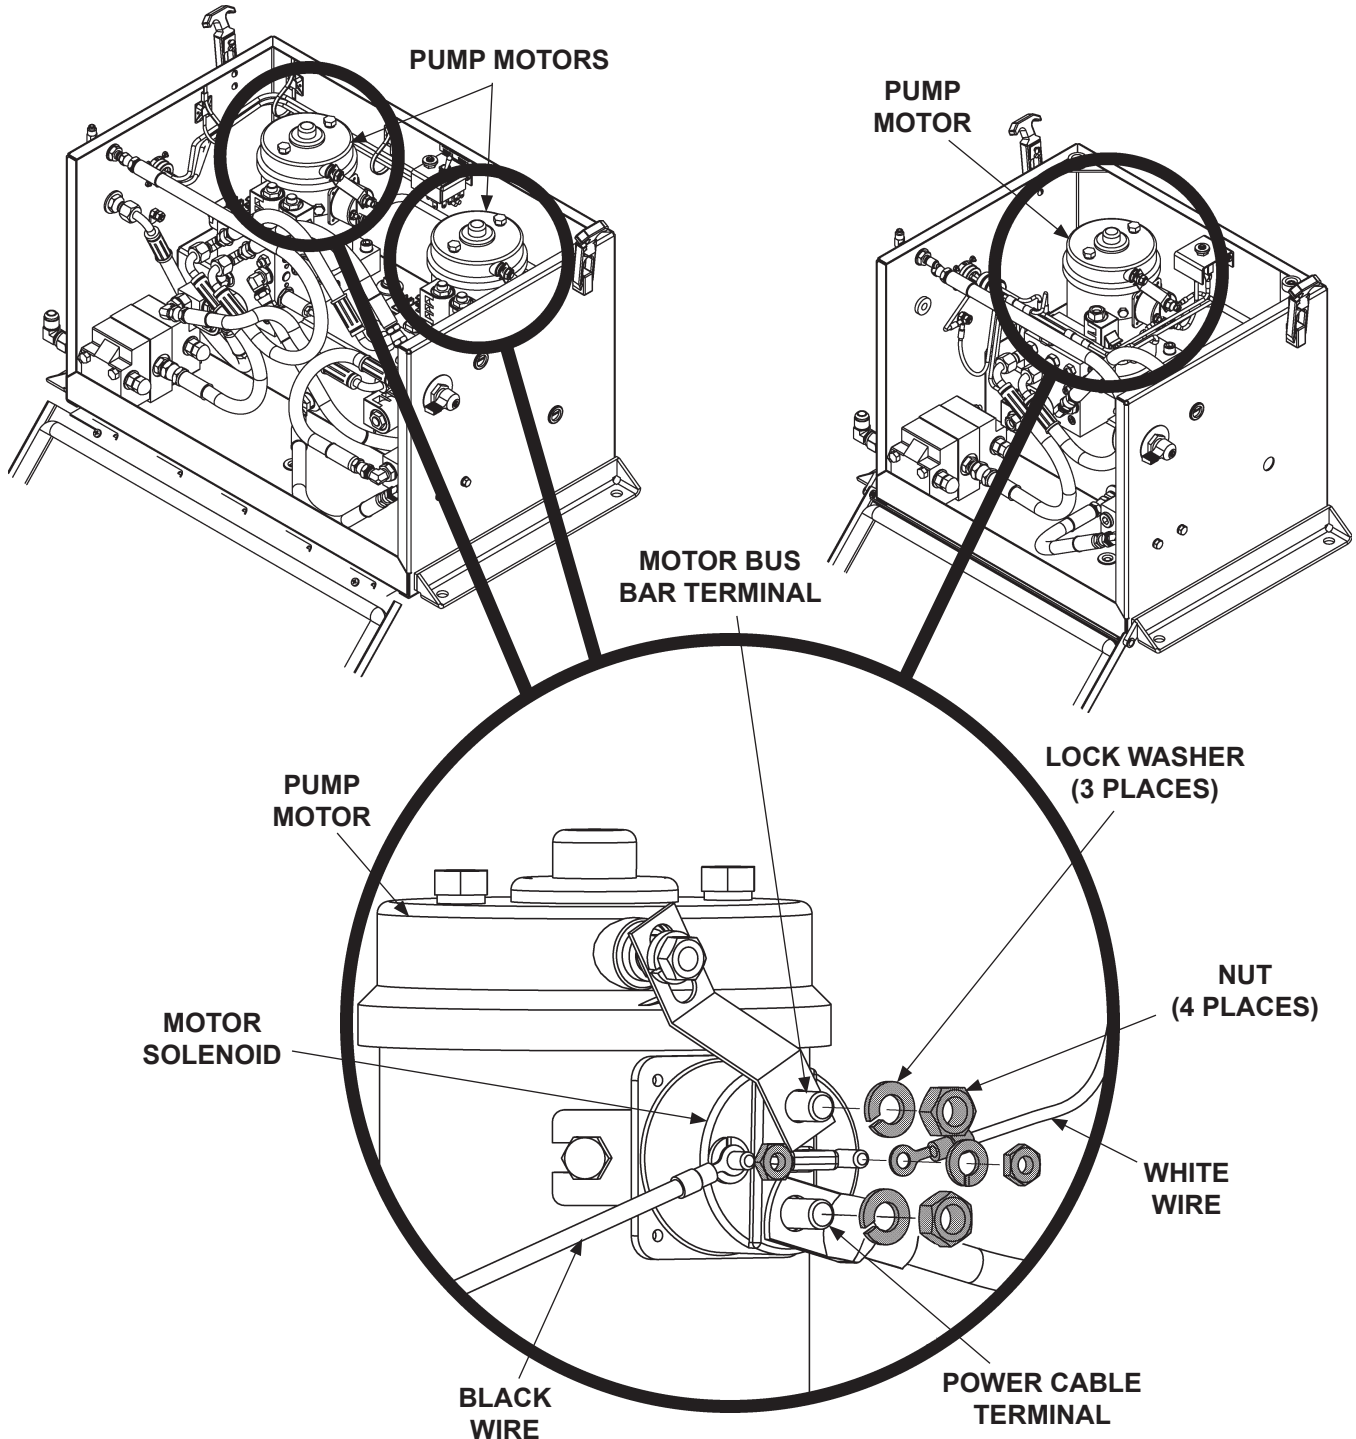

FIG. 2-1
2. Open pump box cover to gain access to pump motors. Disconnect white wire from motor solenoid as shown in FIG. 2-1. Next, remove 2 nuts and 2 lock washers from the power cable terminal and motor bus bar terminal on the motor solenoid (FIG. 2-1). Then, remove 1 nut and 1 lock washer from the black wire terminal on the motor solenoid (FIG. 2-1). Keep all nuts and lock washers to reinstall.